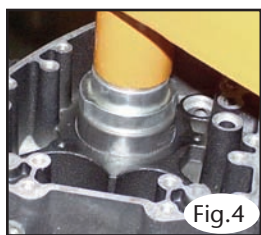

Fig.4
- 4: Start new bearing into it's bore by hand, then slip driver/pilot No.1146-3 through new bearing and into the support tool (bearing letter side up) & position ram of arbor press over the center of driver/pilot (Fig.4). **Apply pressure slowly** until bearing is fully seated or until resistance is felt.